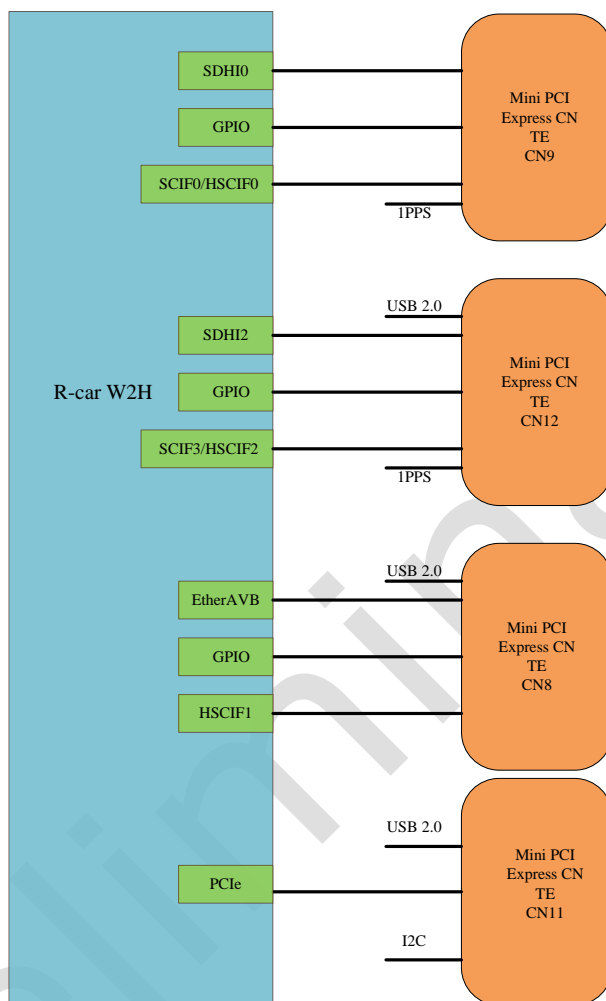

Figure 7 Block Diagram of Mini PCI Express Interface
3.7.2.2 CN12 of figure 7 signal assignments are shown as below:
3.7.2.3 CN8 of Figure 7 signal assignments are shown as below:
3.7.2.4 CN11 of figure 7 signal assignments are shown as below: